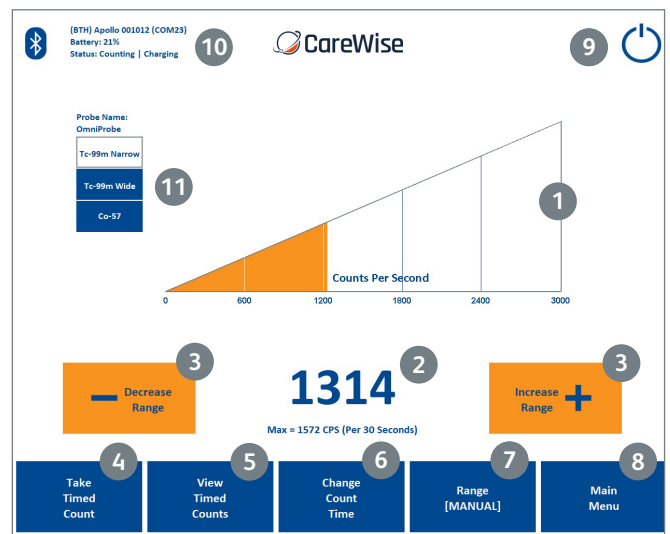
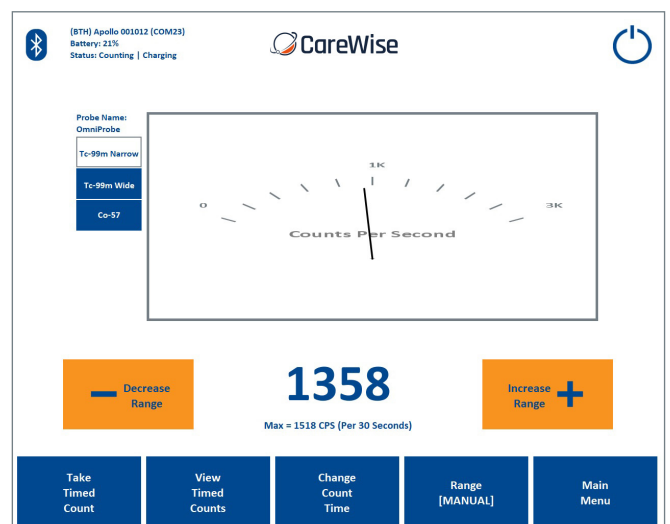

Figure 4 – Count Screen with Wedge Meter
Figure 5 – Count Screen with Analog Meter
The first screen to appear when the system starts up is the Count Screen, which displays feedback about the amount of radiation the probe detects [Figure 4]. The features of this screen are described below. Refer to Figure 4 and the numeric reference for details.
(1) Rate Meter Display
- There are three versions of the RATE METER DISPLAY. The default, shown in Figure 4, uses a wedge-shaped indicator to show the amount of radiation detected. The other two versions of the RATE METER DISPLAY are an analog indicator and a histogram of counts per second over time. These are shown in Figures 5 and 6 respectively.
- (2) **Counts per Second Display** – This numerical display indicates the number of photons detected by the gamma probe per second. Underneath the varying measured count rate value, the maximum number of counts detected (in cps) is displayed; this value is updated every 30 seconds. Tapping this area allows you to change this to 5,10,15,20 or 25 seconds. When a new maximum count rate is reached during a measurement, the Counts per Second numerals will change from blue to red temporarily.
- (3) **Range Controllers** – The DECREASE RANGE and INCREASE RANGE controllers are used to adjust the range of counts per second displayed. Ranges of 0-100, 0-300, 0-600, 0-1000, 0-3000, 0-6000, 0-10000, 0-30000, 0-60000, 0-100000 are available.
- (4) **Take Timed Count Button** – Pressing this button begins a timed count for the current duration. While timed counts are underway, they are viewed on the TAKE TIMED COUNTS SCREEN. Details are in 2.4-2. The Timed Count operation may also be started by pressing the Timed Count 'Egg Timer' button on the Apollo Handset keypad or by pressing the foot pedal accessory.
- (5) **View Timed Counts Button** – Pressing this button allows the user to view any data for timed counts already taken. Details are in 2.4-3.
- (6) **Change Count Time Button** – Pressing this button allows the user to change the duration of timed counts. Details are in 2.4-4.
Figure 4 (Duplicated from page 8) – Count Screen with Wedge Meter and highlighted Surgical Information Window (Probe Information and Isotope Window Settings) (If probe has not been calibrated in 30 days it will prompt calibration).